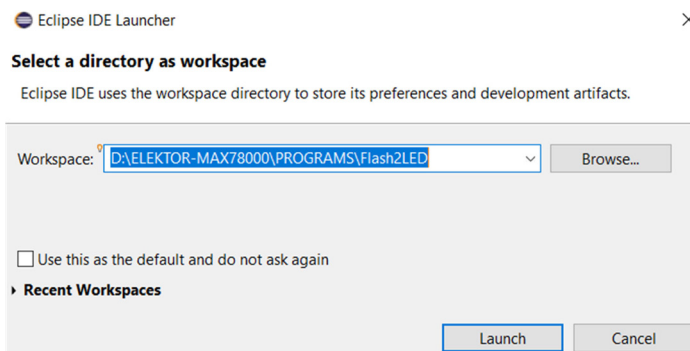

Figure A.1 Select a Workspace by the name of the program
- Select a Workspace by specifying the folder name of the program. For example, to run the program **Flash2LED**, select folder **Flash2LED** as the Workspace name by browsing the programs folder (see Figure A.1), and click **Launch**